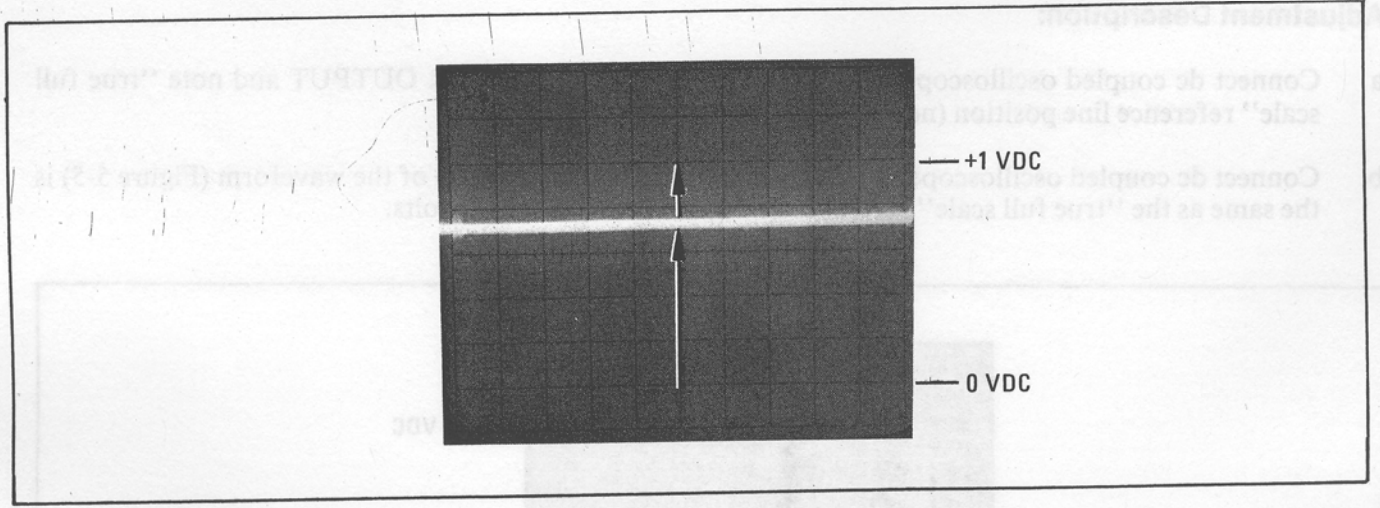

Figure 5-6. X Ramp Waveform Showing Slow 0 to +1 Vdc Excursion of Trace
- c. Press front-panel **X-Y PLOT**. The maximum positive position of trace at the end of the plot cycle (Figure 5-6) should be the same as the "true full scale" reference line noted in step a. If not, adjust "F" then press **X-Y PLOT**. Repeat this procedure until the X ramp ends on the reference line noted in step a  $\pm 30$  mV.